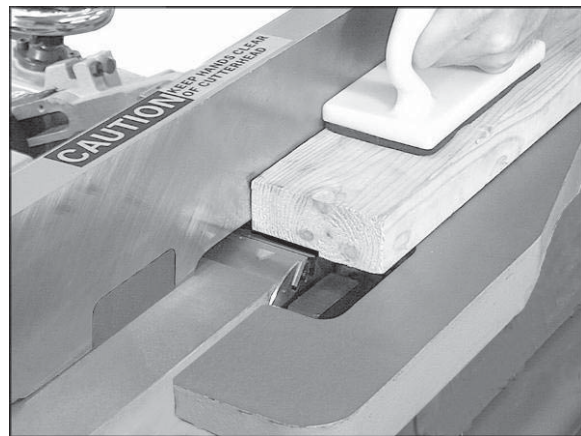

Figure 42
A rabbet is a groove cut along the edge of a board. See Figure 42. The width and thickness of the wood to be rabbeted depends upon the width and length of the rabbet. However, never rabbet a piece of wood less than 12" long.
4. Re-connect power. It is easier and safer to take a series of shallow cuts. Lower the infeed table 1/32" at a time and make successive cuts until the desired depth of rabbet has been obtained. See Figure 42.